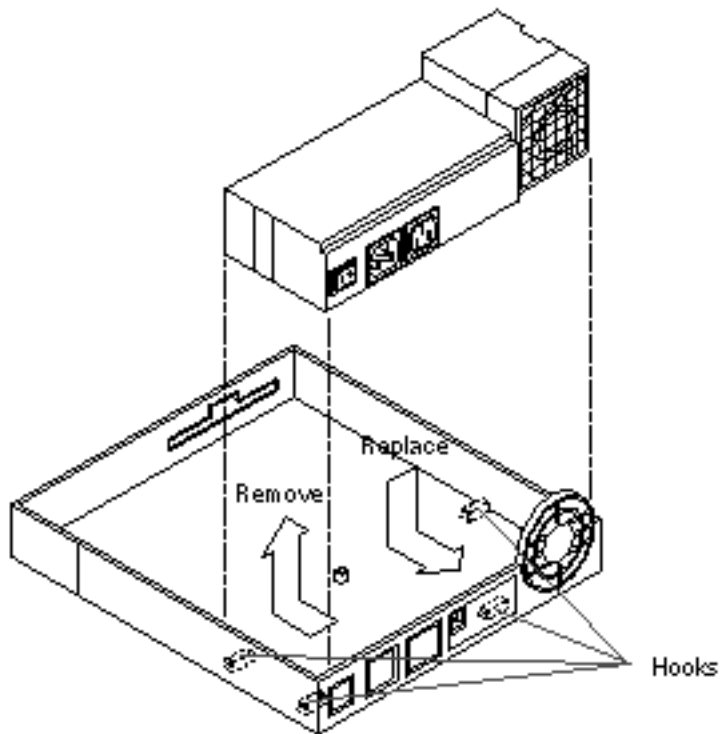

Figure 8-1 Removing and Replacing the Power Supply
Figure 8-1 shows how to remove and replace the power supply.
6. Remove the power supply (see Figure 8-1).
1. Align the holes in the bottom of the power supply with the hooks in the system unit top (see Figure 8-1).